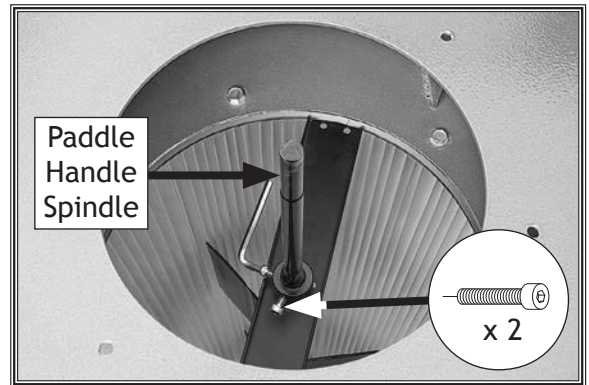

Figure 62. Separating paddle handle spindle from filter paddle spindle.
5. Loosen (2) M6-1 x 16 cap screws on paddle handle spindle to remove (see **Figure 62**).